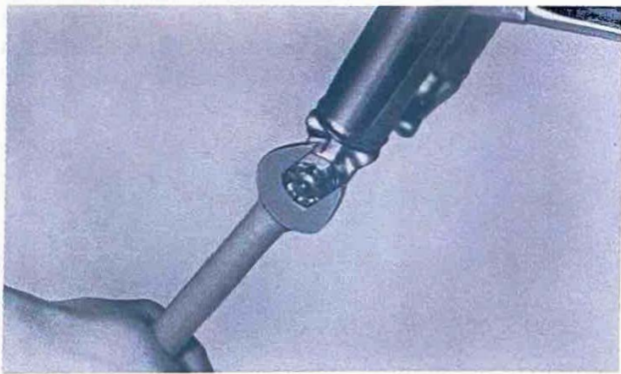

Fig. 17
9. Remove the front wheel axle nut and plain washer, and loosen the pinch bolt securing the axle. Then remove the wheel axle. (Fig. 17)